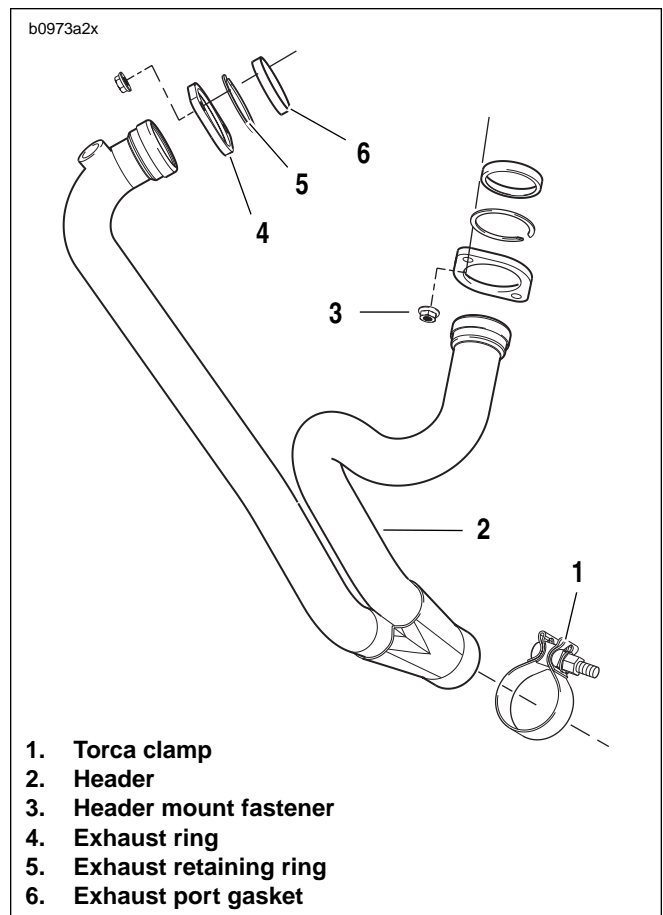

Figure 2-113. Exhaust Header
7. See Figure 2-113. Loosen Torca clamp (1) and lower muffler.
3. See Figure 2-113. Remove exhaust header (2) by removing mounting fasteners (3).
4. Remove exhaust ring (4), retaining ring (5) and port gasket (6).
1. See Figure 2-113. Install exhaust ring (4), retaining ring (5) and **new** port gasket (6).
2. Install exhaust header (2). Tighten mounting fasteners (3) to 72-96 **in-lbs** (8-11 Nm).
4. See Figure 2-113. Tighten the Torca clamp (1) to 28-30 ft-lbs (38-40.6 Nm).